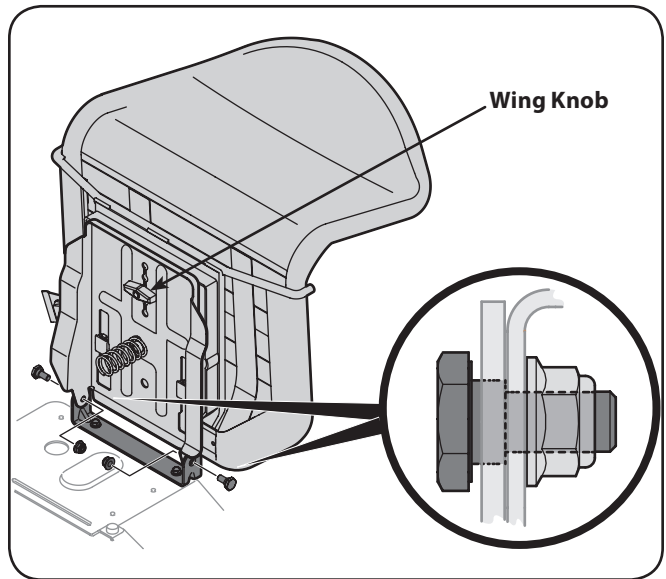

Figure 3-5
4. Install two shoulder bolts included with your hardware pack and secure with two lock nuts. See Figure 3-5.
- To adjust the position of the seat, remove the wing knob on the bottom of the seat. Slide the seat forward or backward as desired. Reinstall the wing knob. Refer to Fig. 3-5.